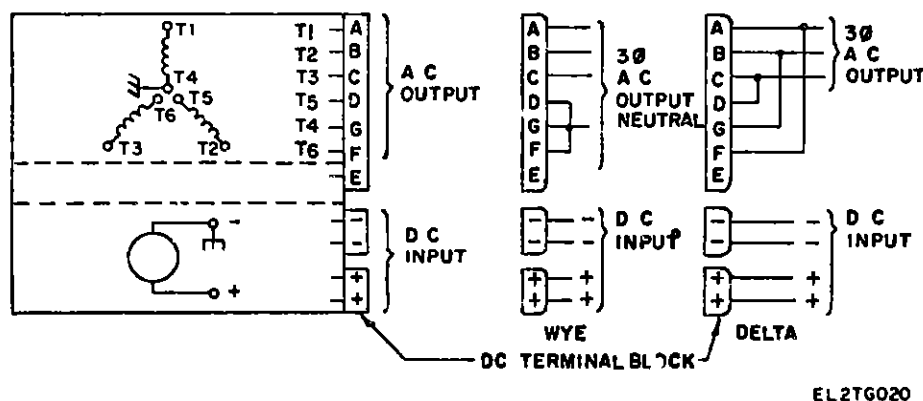

Figure 2-1. Phase connections
b. When used as a single-phase motor-generator, the unit shall be connected in delta (fig 2-1) and the external load connected to terminals A (T1) and B (T2) of the ac output connector.